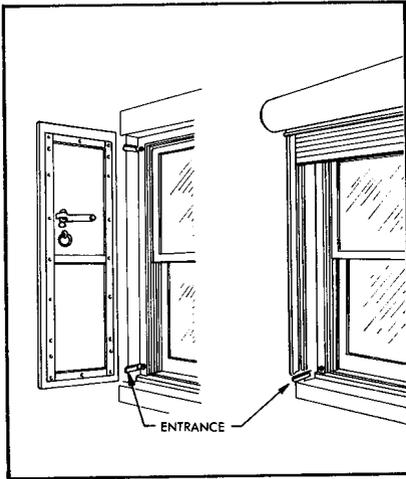

FIGURE 2. Entrance at Shutter or Fire Screen
- c. Bore hole in mortar joint as shown in Figure 2. Be sure slot is deep enough so wire is cleared when shutter or screen is operated.